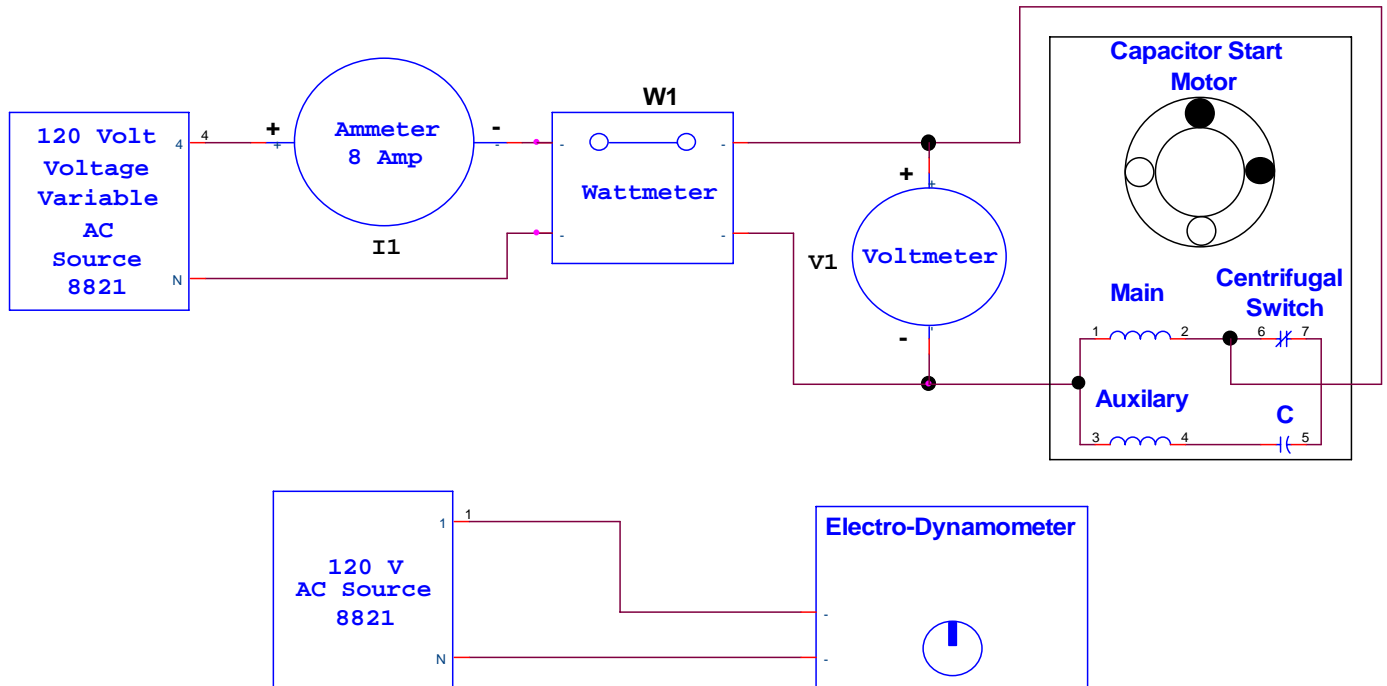

Fig. 5 Capacitor start motor connection diagram
5. Using the wattmeter, Electro-dynamometer and AC Metering Modules, connect the circuit shown in Fig. 5. (Leave the belt off for the zero torque setting in part 7.)